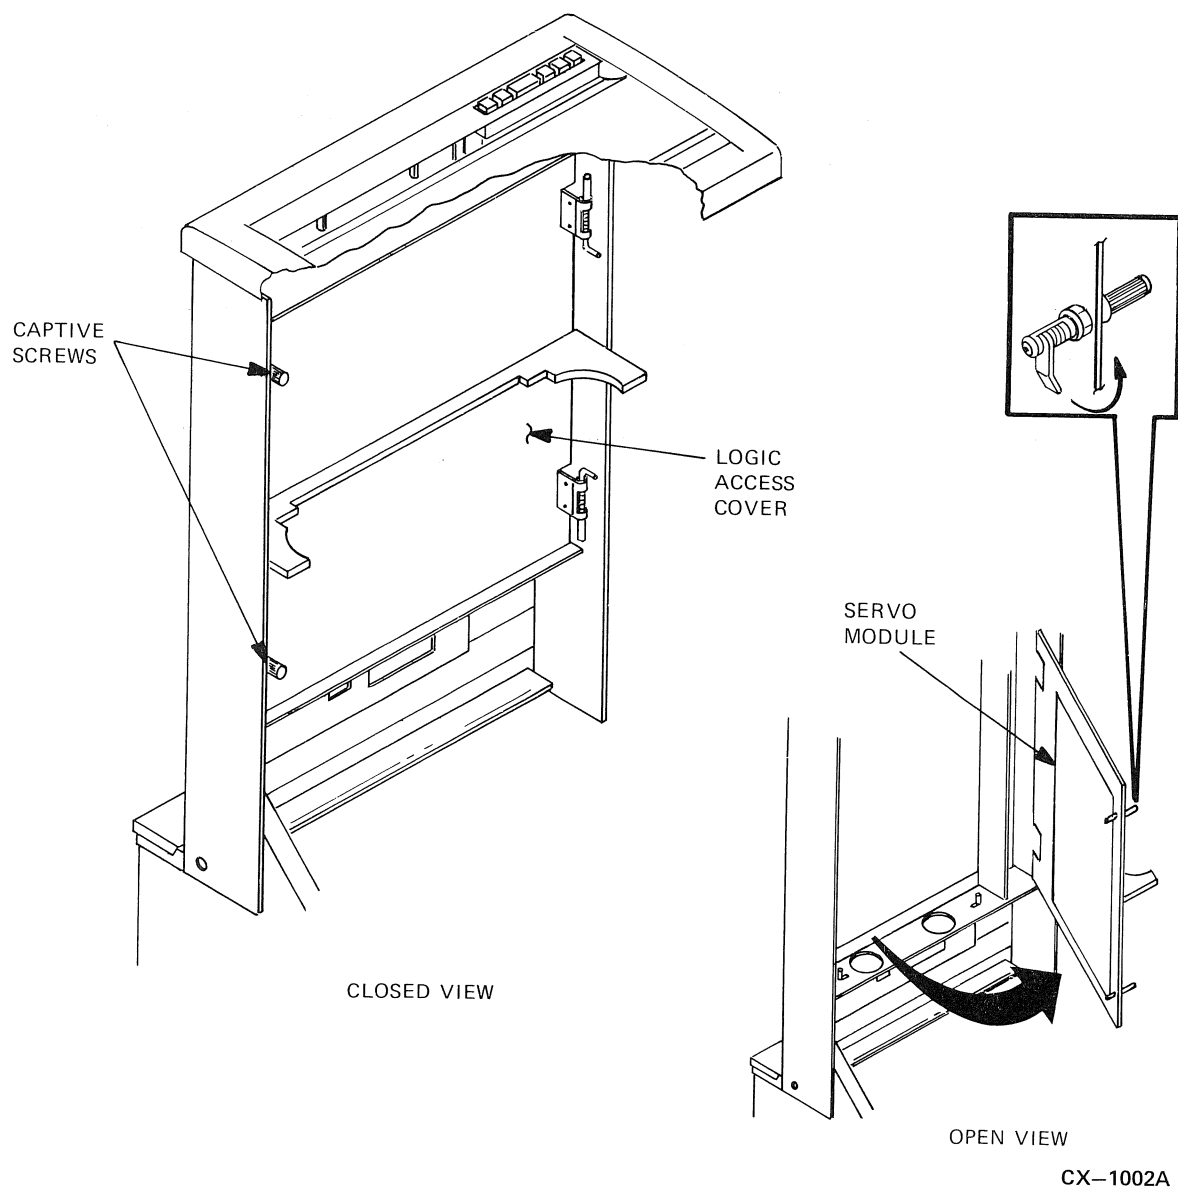

Figure 6-11 Opening the Logic Access Cover
10. Unlock the logic access cover by manually turning the two captive fastener assembly screws several turns counterclockwise. Release and tighten these screws by hand only. Refer to Figure 6-11.
13. Return the logic access cover to its original closed position. Lock the two captive fastener assembly screws by manually turning them clockwise. Make sure the logic access cover is securely locked in place. Refer to Figure 6-11.